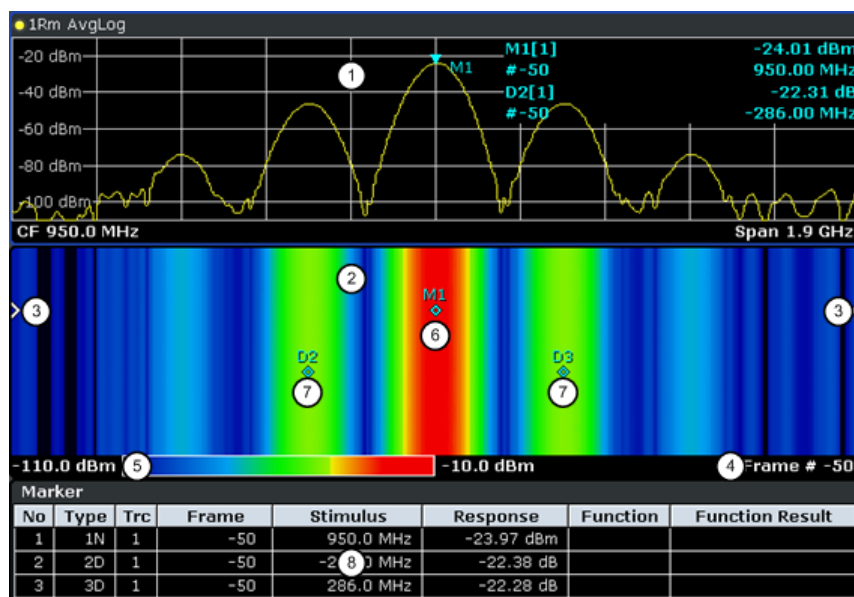

Figure 6-20: Screen layout of the spectrogram result display
- Spectrum Analyzer result display (1 in Figure 6-20)